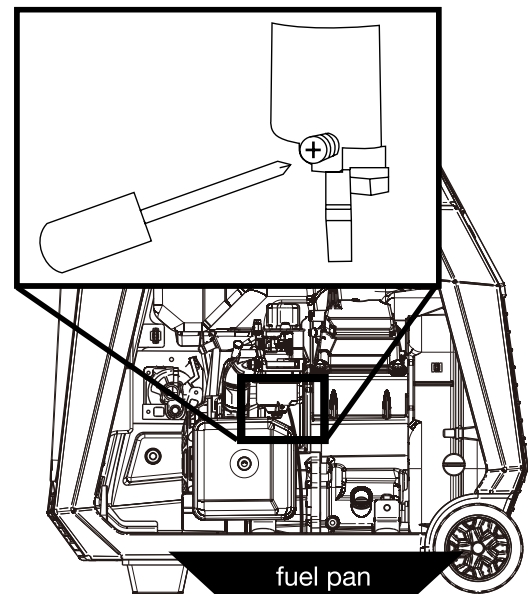

Figure 14: Loosen float bowl screw
3. Loosen the float bowl drain screw (see Figure 14) until fuel is seen draining from the float bowl.